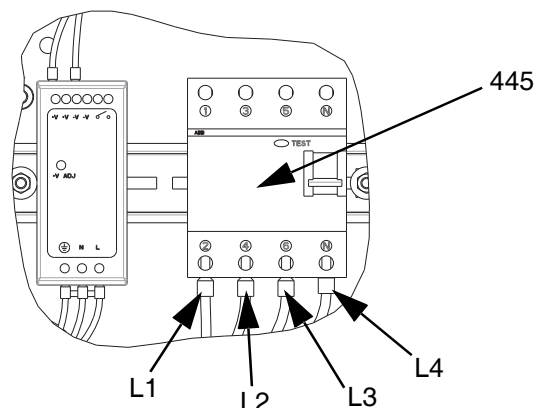

FIG. 18
11. Connect the L1, L2, L3, and L4 wires from the Expansion Module to circuit breaker (445) as shown in FIG. 18.
12. Connect the ground wires to the ground terminal (455) by loosening the nut (437) on the wiring harness.